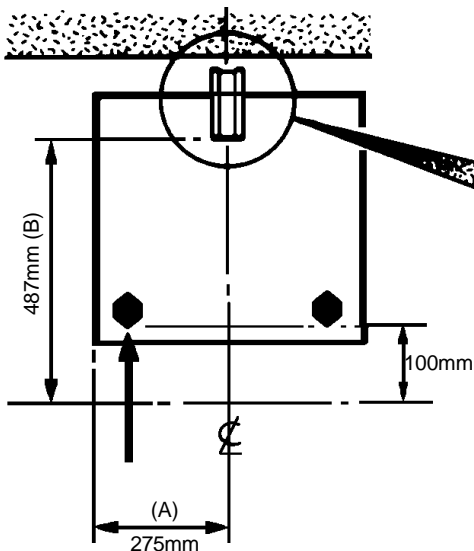
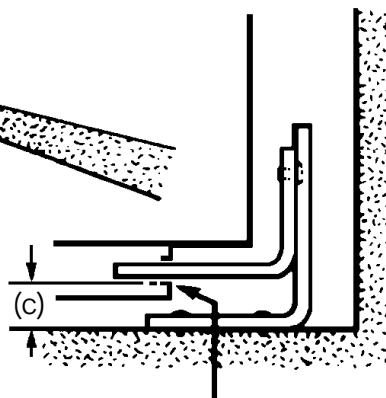

Fig.2a
Fig.2b
2. Mark off 300mm from the left hand side of the appliance as shown in dimension 'A', Fig 2a. This is the centre line of the fixing bracket.
3. Draw a line 100mm from the front edge of the levelling feet (see Fig.2a) and remove appliance from its position. Mark off dimension 'B' (see Fig.2a) back from this line on the centre line of the bracket to locate the front edge of the lower bracket. Fix lower bracket (with two fixing holes) to the floor then measure the height from floor level to engagement edge on back of appliance, dimension 'C' of Fig.2b.
Reposition appliance and check that top bracket engages into appliance back as shown in Fig. 2b.